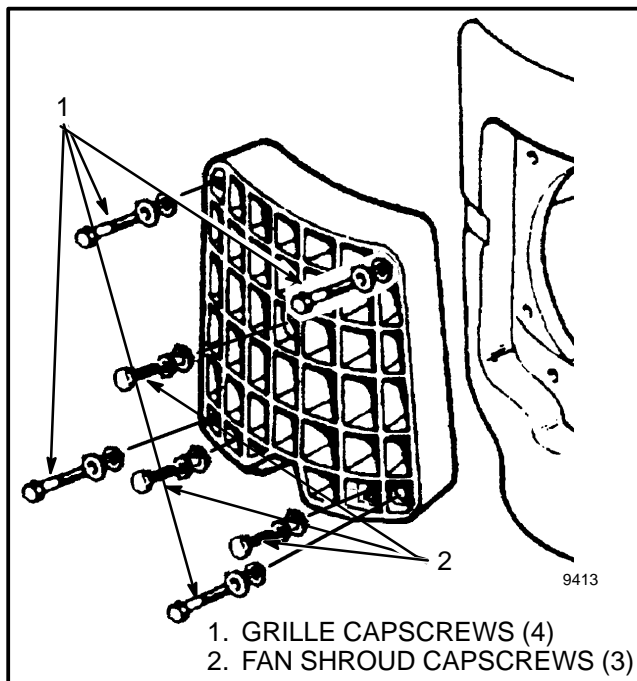

FIGURE 3. FAN ASSEMBLY MOUNT
2. Remove the three capscrews that hold the fan assembly to the grille. See FIGURE 3.